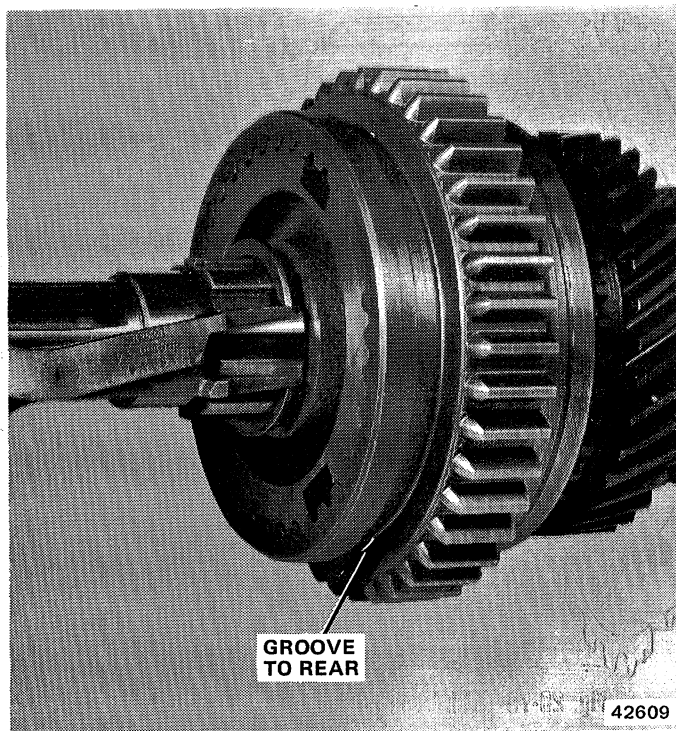

Fig. 2B-75 First-Second Synchronizer Installation
(8) Install mainshaft bearing roller spacer on shaft pilot hub (fig. 2B-69).